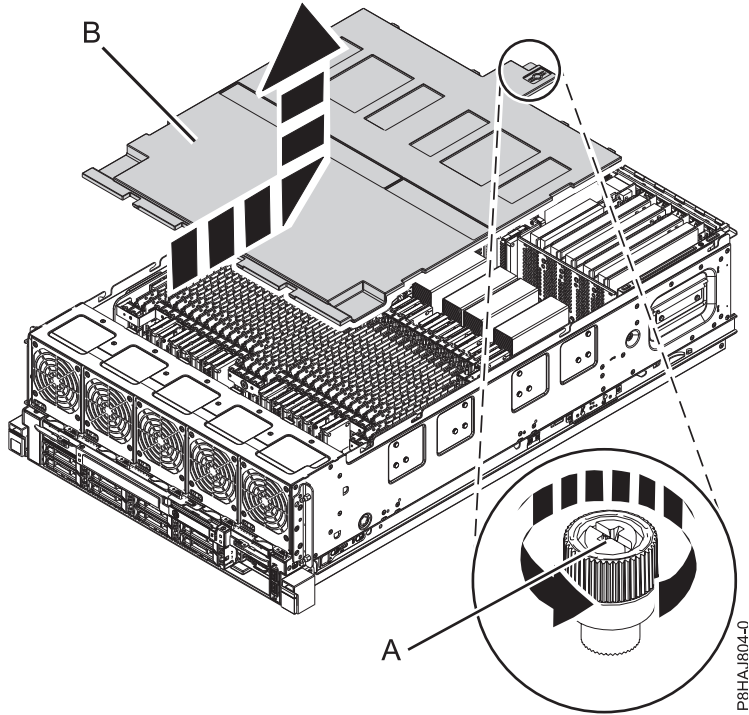

Figure 40. Removing the safety cover
2. Loosen the thumbscrew (A) located at the rear of the cover, by turning it in the direction shown in Figure 40 on page 78.
3. Slide the safety cover (B) toward the rear of the system. When the front of the cover has cleared the upper frame ledge, lift the cover up and off the system.